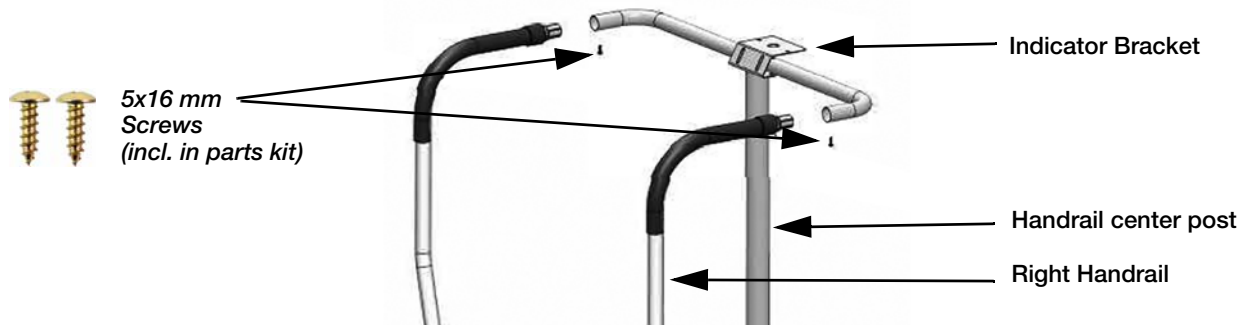

Figure 2-4. Handrail to Post Assembly
- Insert the handles into the handrail post (Fig. 2-4).